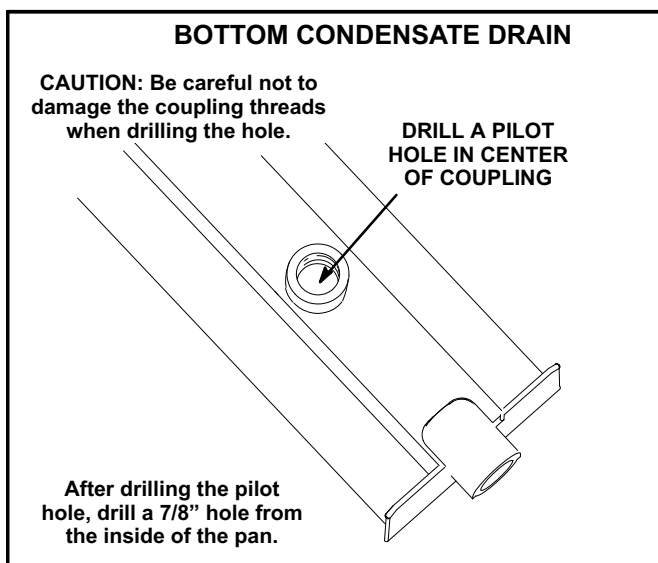

FIGURE 10
- 3- Turn the drain pan upside down and drill a pilot hole through the bottom of the drain pan in the center of the coupling. See figure 10.